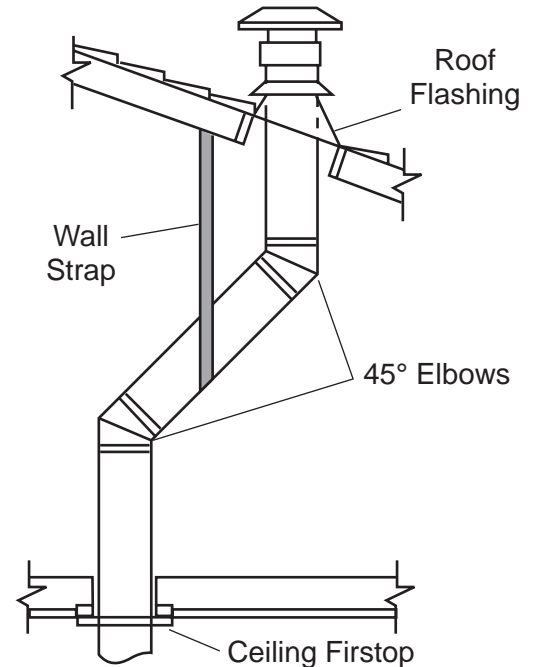

Figure 30 - Offset with Wall Strap and 45° Elbows
1. Determine the route your vertical venting will take. If ceiling joist, roof rafters or other framing will obstruct the venting system, consider an offset. See Figure 30 to avoid cutting load bearing members.